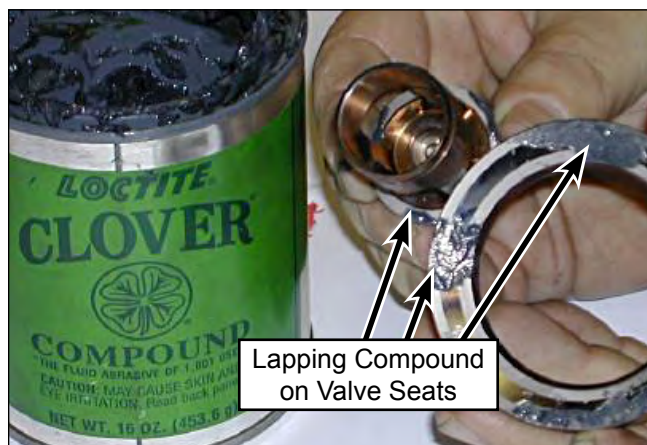

Figure 97: Apply Lapping Compound.
2. Apply lapping compound to the mating surface on the suction valve (Figure 97).